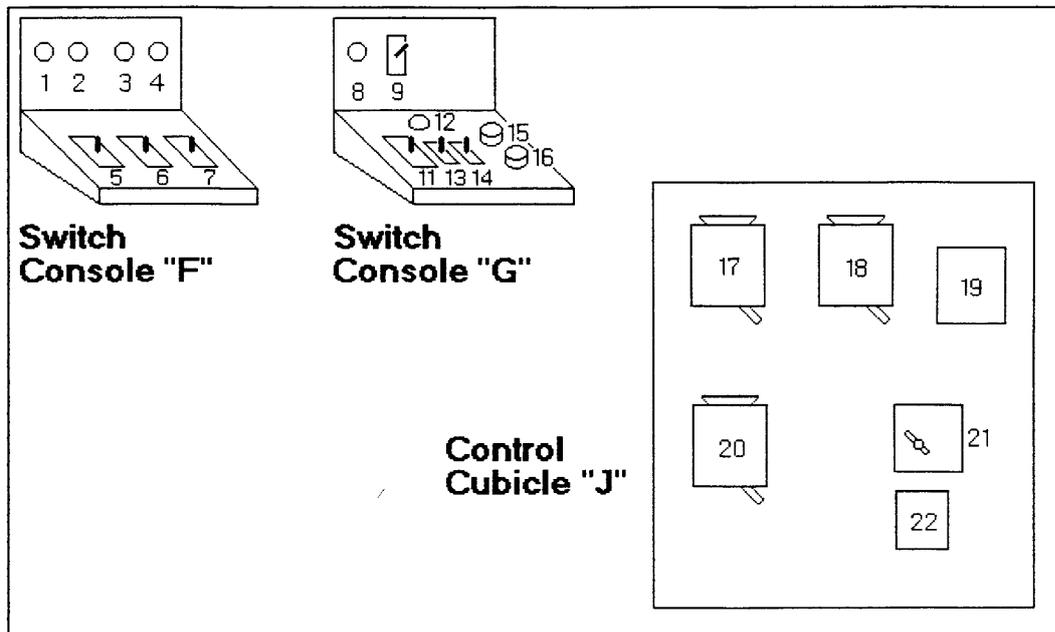

Fig. 4
- F: Switch console - see Fig. 4, page 10.
- G: Switch console - see Fig. 4, page 10.
AUXILIARY CONTROLS LAYOUT (Fig. 4)